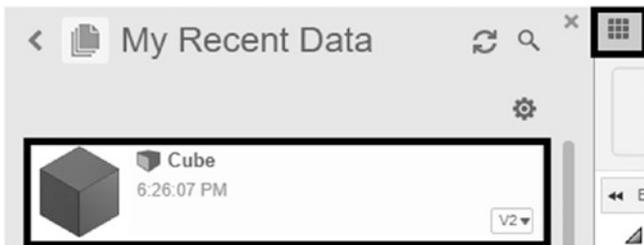

Figure 3-53. Go back to the Cube project
1. Let’s start by opening our Cube project. Go to the Data Panel ► My Recent Data; the Cube project should be the most recent project. See Figure 3-53.